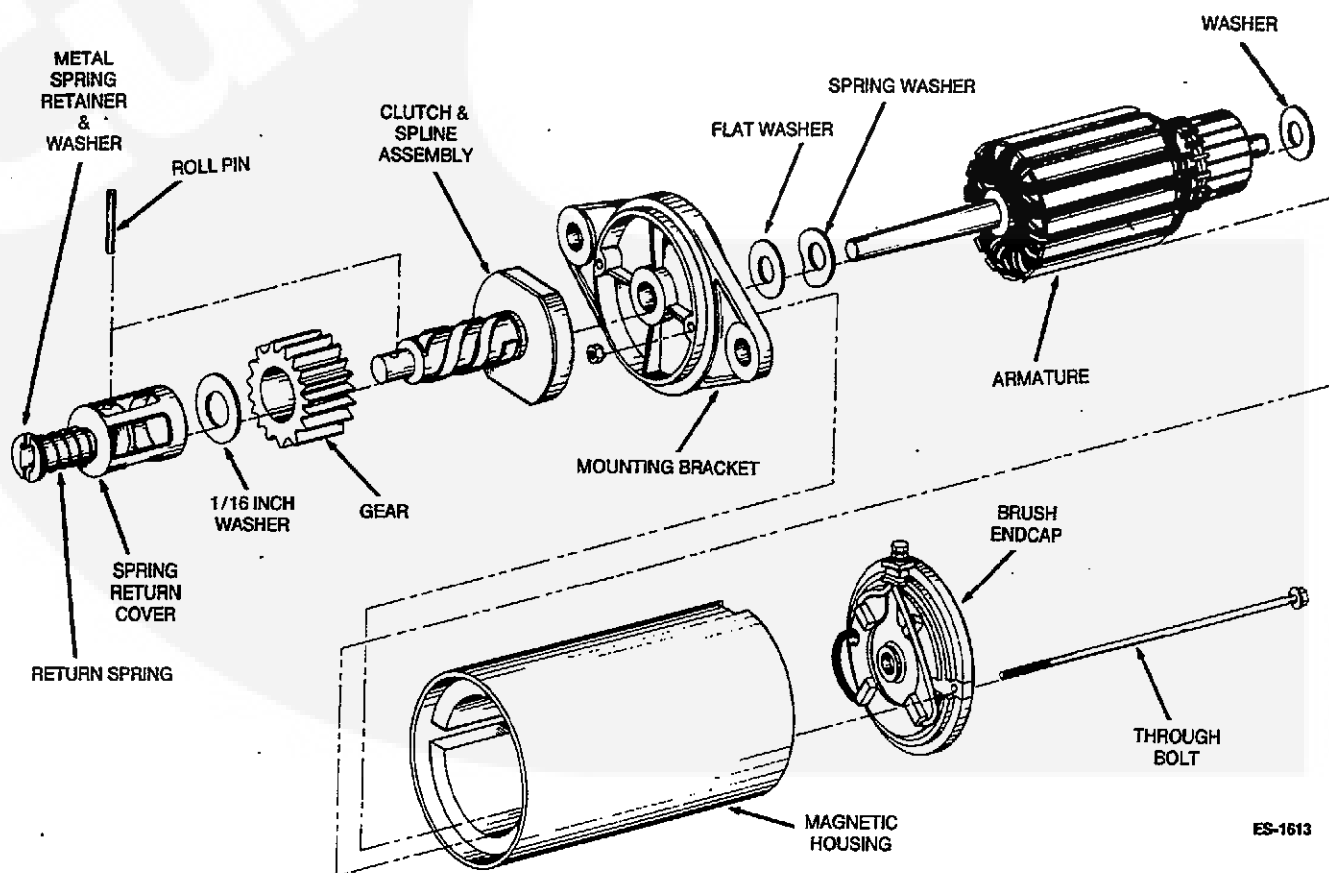

FIGURE 6-44. STARTER ASSEMBLY
10. Place a spring washer and a flat washer on the shaft, as shown in Figure 6-44.